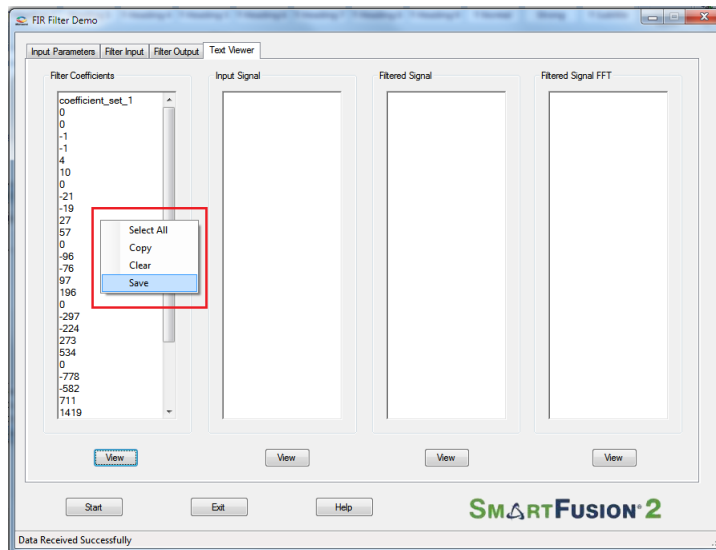

Figure 1-18 • Text Viewer: Coefficients Save Options
13. To save the coefficients as a text file, right-click on the filter Coefficients window, it shows different options as shown in Figure 1-18. Now click on **Save**. Select OK to save the text file.